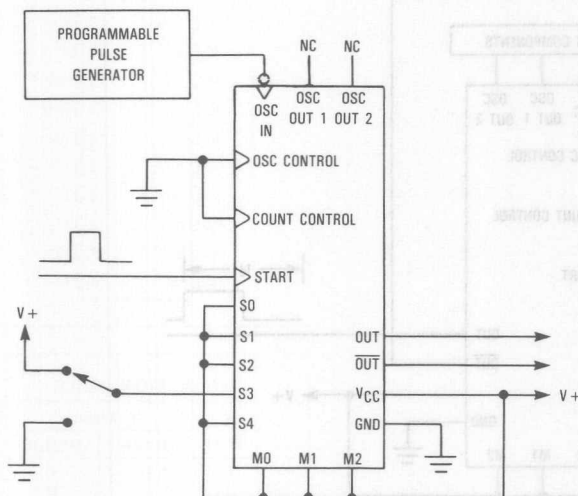

Figure 17. Test Mode (2^8 Divider Configuration)
Setting M0, M1, M2 to a logic level 1 selects the programmable counter option. Setting S3 and S4 to a logic level 1 divides the 2^{24} stage counter into three 8-stage counters. These three 8-stage counters are clocked in parallel. Setting S0, S1, S2, to a logic level 1 sets the counters to divide by 2^8 (256). Applying a start pulse, and then clocking OSC IN 255 times sets all flip flop stages and OUT to a high level. After setting OUT to a high level, S3 is set to a logic level 0 and the counters revert back to 2^{24} operation. Clocking OSC IN one more time causes a 0 to ripple through the counters and OUT goes from a high to a low level (see Figure 17). This method of exercising the delay counter is faster than clocking in 2^{24} clock pulses.